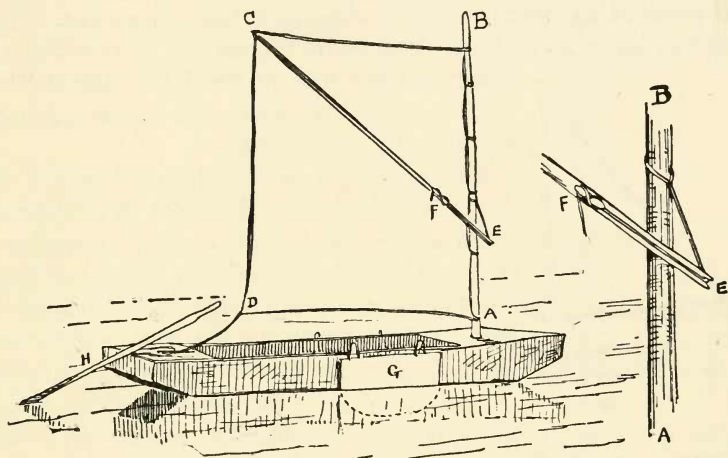
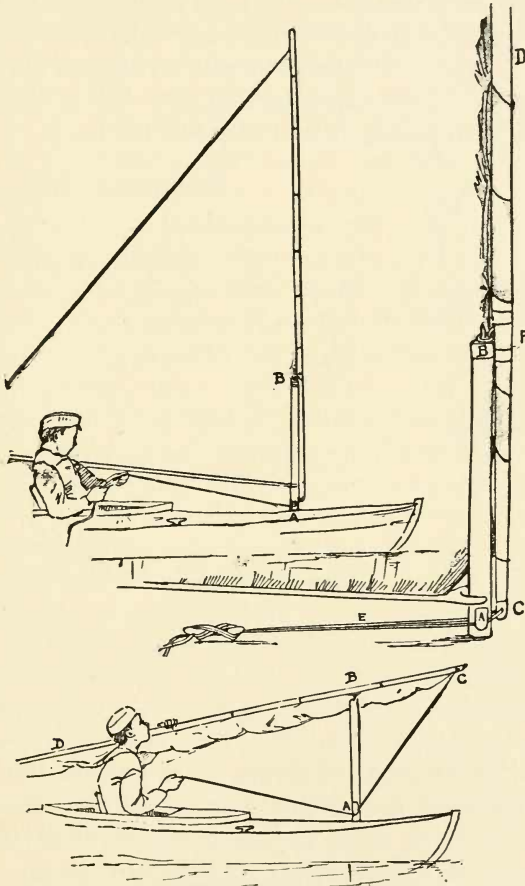
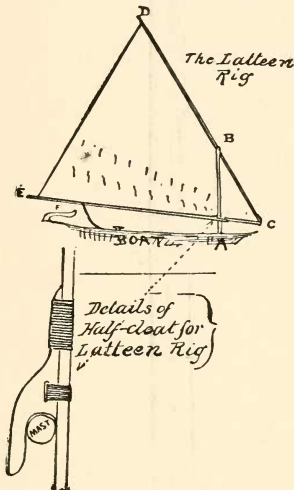

Fig. 143.—A simple rig.
Fig. 145.—A new device.
Fig. 146.—The latteen rig.
I will suppose that the reader has the use of a broad, flat-bottomed boat without any rudder. (See Fig. 143.) She cannot be made to work like a racing yacht under canvas, but lots of fun can be had out of her.
C, E, is trimmed so that the loop at C will fit over it but not slip down. The lower end is simply notched to receive a short line called a “snotter,” as shown in the detailed drawing at the right of the cut (Fig. 143). It will be readily understood that, when the sprit is pushed upward in the direction of C, the sail will stand spread out. The line is placed in the notch at E and pulled up until the sail sets properly, when it is made fast to a cleat or to a cross-piece at F. This device is in common use and has its advantages, but a simple loop for the foot of the sprit to rest in is more easily made and will do nearly as well. H is an oar for steering. Having thus described the simplest rig possible, we may turn our attention to more elegant and elaborate but no’ always preferable outfits.
Fig. 145 shows a device, published for the first time in the *St. Nicholas Magazine* for September, 1880, which enables the sailor to step and unstep his mast, and hoist or lower his sail without leaving his seat—a matter of great importance when the boat is light and tottlish, as in the case of that most beautiful of small craft, the modern canoe, where the navigator sits habitually amidships. The lower mast (A, B, Fig. 145) stands about two and a half feet above the deck. It is fitted at the head with a metal ferrule and pin, and just above the deck with two half-cleats or other similar devices (A). The topmast (C, D) is fitted at F with a stout ring, and has double halyards (E) rove through or around its foot. The lower mast being in position (see lower part of Fig. 145), the canoeist desiring to make sail brings the boat's head to the wind, takes the topmast with the sail loosely furled in one hand and the halyards in the other. It is easy for him by raising this mast, without leaving his seat, to pass the halyards one on each side of the lower mast and let them fall into place close to the deck under the half-cleats at A. Then, holding the halyards taut enough to keep them in position, he will hook the topmast ring over the pin in the lower mast-head and haul away (see top part of Fig. 145). The mast will rise into place, where it is made fast.
is recommended only for boats which are "stiff"—not tottlish, that is. The fact that a considerable portion of the sail projects forward of the mast renders it awkward in case of a sudden shift of wind. Its most convenient form is shown in Fig. 146. The arrangement for shipping and unshipping the yard is precisely like that shown in Fig. 145—a short lower mast with a pin at the top and a ring fitted to the yard. It has a boom at the foot which is joined to the yard at C by means of a hook or a
simple lashing, having sufficient play to allow the two spars to shut up together like a pair of dividers. The boom (C, E) has, where it meets the short lower mast, a half-cleat, or jaw, shown in detail at the bottom of the cut (Fig. 146), the circle representing a cross-section of the mast. This should be lashed to the boom, as screws or bolts would weaken it. To take in sail, the boatman brings the boat to the wind, seizes the boom and draws it toward him. This disengages it from the mast. He then shoves it forward, when the yard (C, D) falls of its own weight into his hands and can be at once lifted clear of the lower mast. To keep the sail flat, it is possible to arrange a collar on the lower mast so that the boom, when once in position, cannot slip upward and suffer the sail to bag.
Nothing has been said about reefing thus far, because small boats under the management of beginners should not be afloat in a "reefing breeze." Reefing is the operation of reducing the spread of sail when the wind becomes too fresh. If you will look at Fig. 146 you will see rows of short marks on the sail above the boom. These are "reef-points"—bits of line about a foot long passing through holes in the sail and knotted so that they will not slip. In reefing, the sail is lowered and that portion of it between the boom and the reef-points is gathered together, and the points are tied around both it and the boom. When the lower row of points is used it is a single reef. Both rows together are a double reef.
with the wind blowing toward the shore. Row out a little way, and then sail in any direction in which you can make the boat go, straight back to shore if you can, with the sail out nearly at right angles with the boat. Then try running along shore with the sheet hauled in a little and the sail on the side nearest the shore. You will soon learn what your craft can do, and will probably find that she will make very little, if any, headway to windward. This is partly because she slides sidewise over the water. To prevent it you may use a "lee-board"—namely, a broad board hung over the side of the boat (G, Fig. 143). This must be held by stout lines, as the strain upon it is very heavy. It should be placed a little forward of the middle of the boat. It must be on the side away from the wind—the lee side—and must
In small boats it is sometimes desirable to sit amidships, because sitting in the stern raises the bow too high out of water; steering may be done with an oar over the lee side, or with "yoke-lines" attached to a cross-piece on the rudder-head, or even to the tiller. In this last case the lines must be rove through rings or pulleys at the sides of the boat opposite the end of the tiller. When the handle of the oar (H, Fig. 143)—or the tiller (F, Fig. 146) if a rudder is used—is pushed to the right, the boat will turn to the left, and *vice versa*. The science of steering consists in knowing when to push and how much to push—very simple, you see, in the statement, but not always so easy in practice.